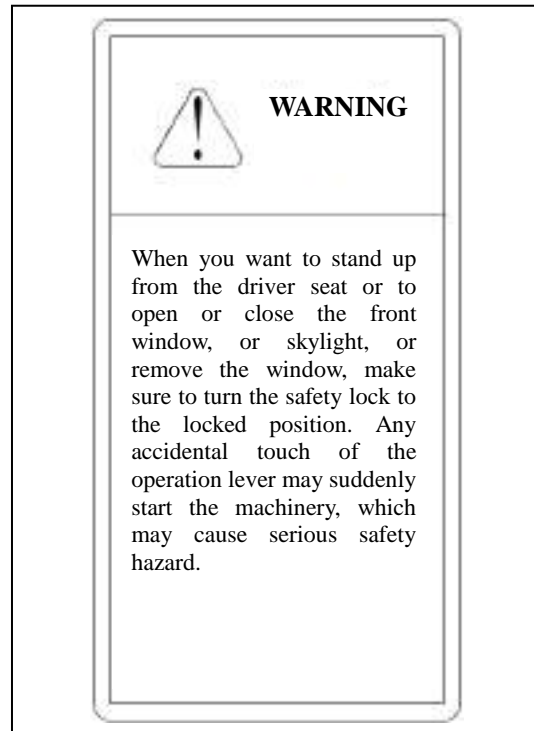

Figure 1-16 Warning when standing up from the operator’s seat
(15) Warning when you standing up from the operator’s seat, as shown in Figure 1-16.